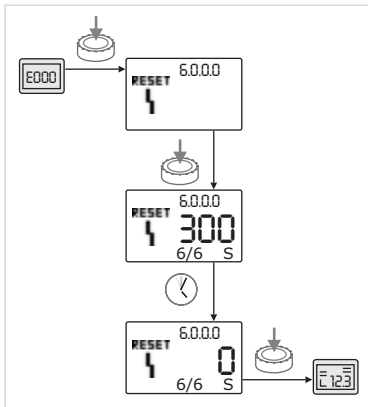

Fig. 56: Acknowledge error type B (X=Y)
- If the current incidence of the error is the same as maximum incidence (Fig. 56):